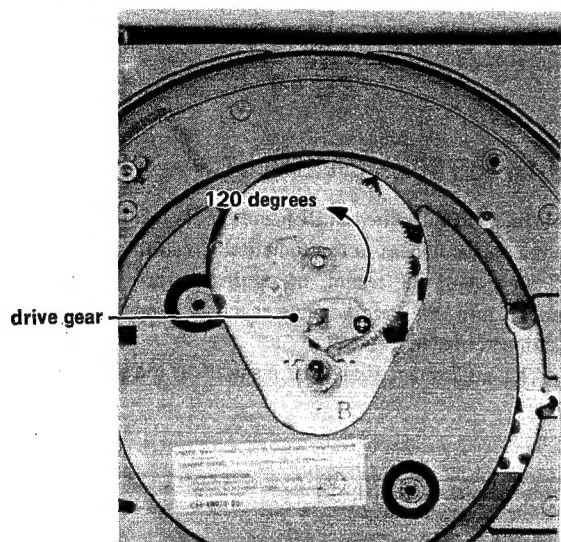

Fig. 4-8
2. Turn the drive gear counterclockwise about 120 degrees (refer to Fig. 4-8).